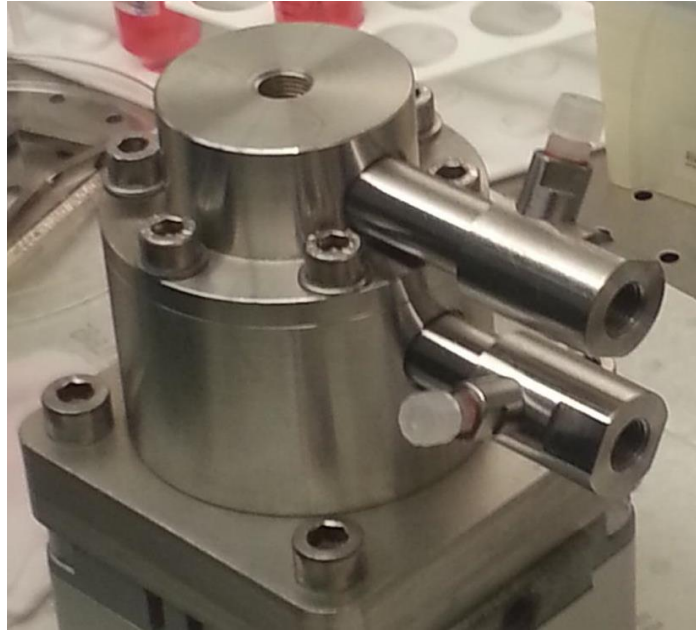

Figure 16
- Screw the tower with short thread into the bioreactor head (Fig.16).
- Check if all the gaskets are in place (Fig.16).